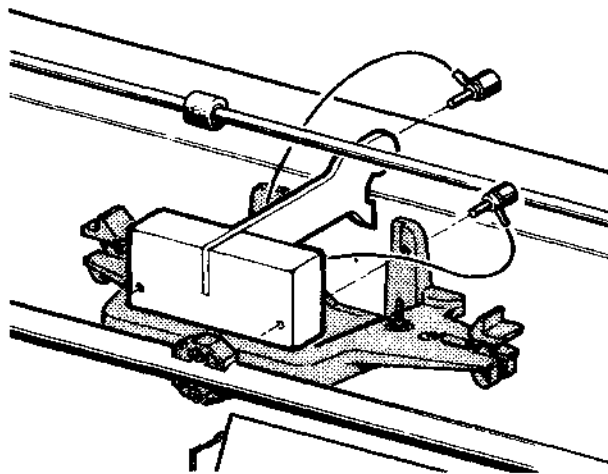

Figure 3-25. Platen-To-Print Head Adjustment Tool Installation
2. Install the Platen-to-Print Head tool onto the carriage assembly as shown in Figure 3-25. The tool is correctly aligned for use when its two mounting thumbscrews have been threaded in smoothly, completely, and are finger tight.